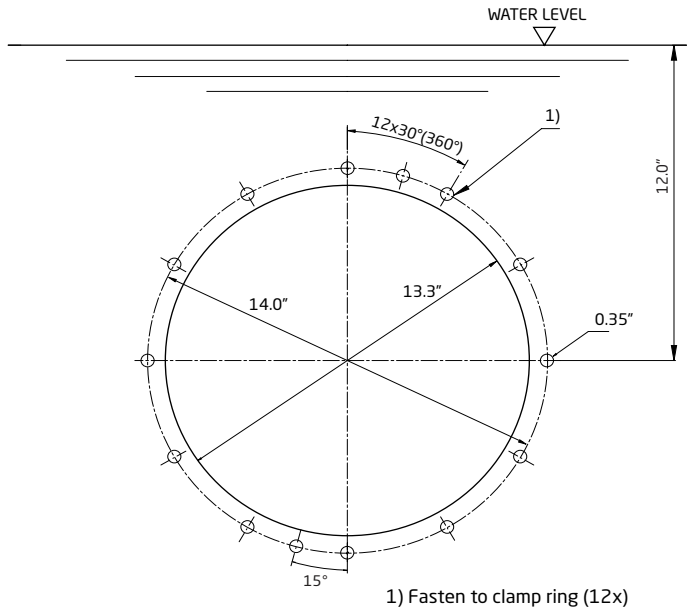

Figure 12
2. Using the template shown in Figure 12, mark and drill the fourteen (14) M8 holes through the pool wall.